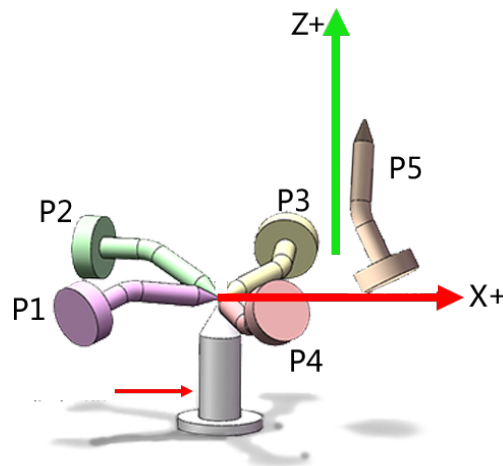
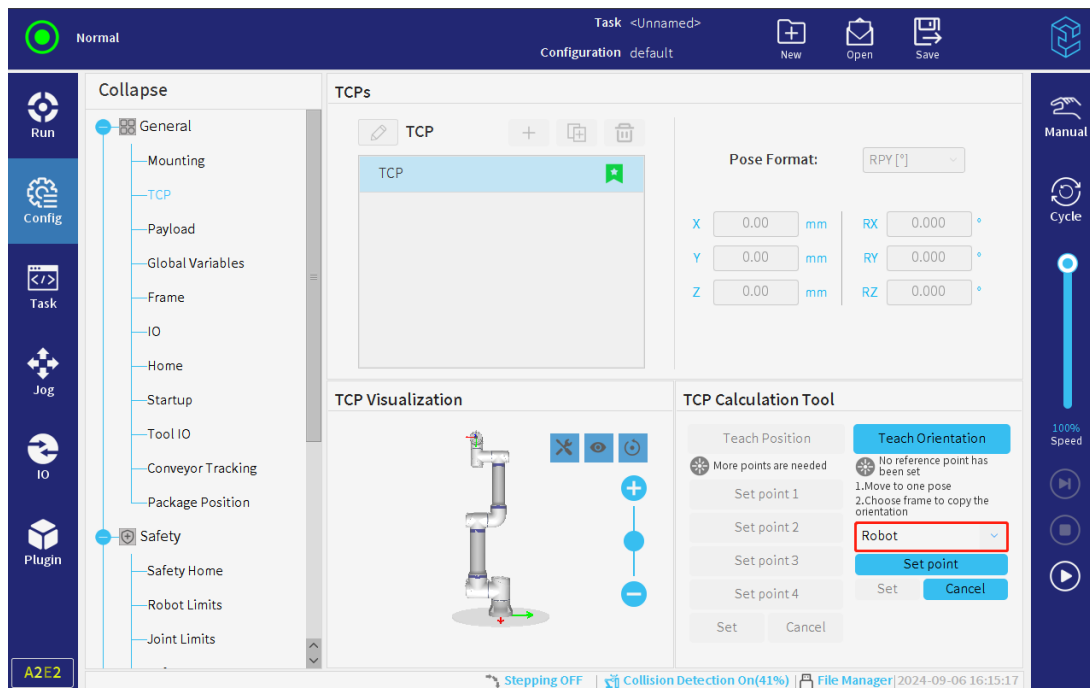

Figure 3-40 : Set TCP
Figure 3-41 : When Selecting Base
2. Users can choose the default base or a newly taught one as the coordinate system. If choosing the base, adjust the tool pose to a new point P5. Ensure that of the tool's end aligns with the orientation of the coordinate system and that X and Y directions of to meet the specified requirements, as illustrated in **Figure 3-40** . Tap "Set Point > Set" and the system will calculate the data for the desired pose based on the coordinate system and then apply the data to the TCP in **Figure 3-41** ;